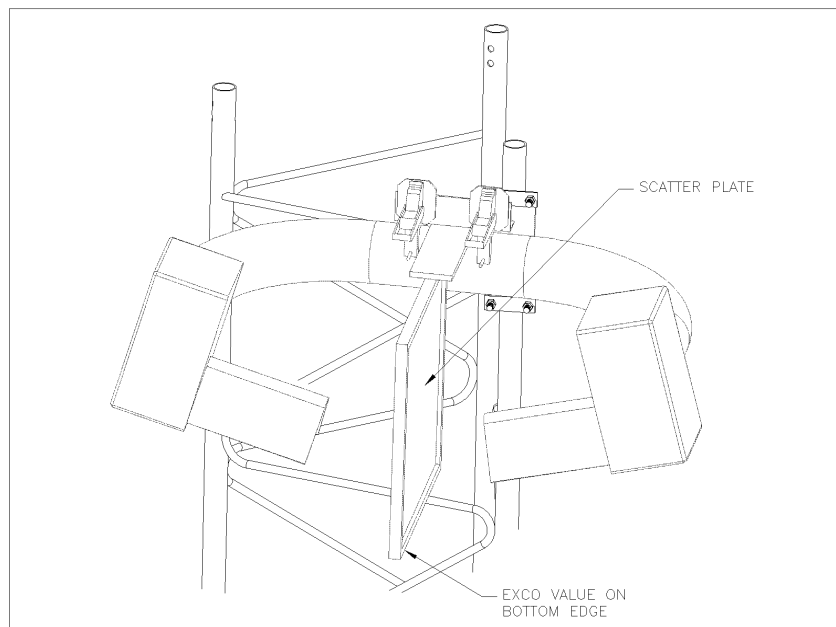

Figure 1-20. Visibility Sensor - Scatter Plate Installed
- d. Carefully hang scatter plate by hooking top bracket over top of sensor cross arm (see Figure 1-20).